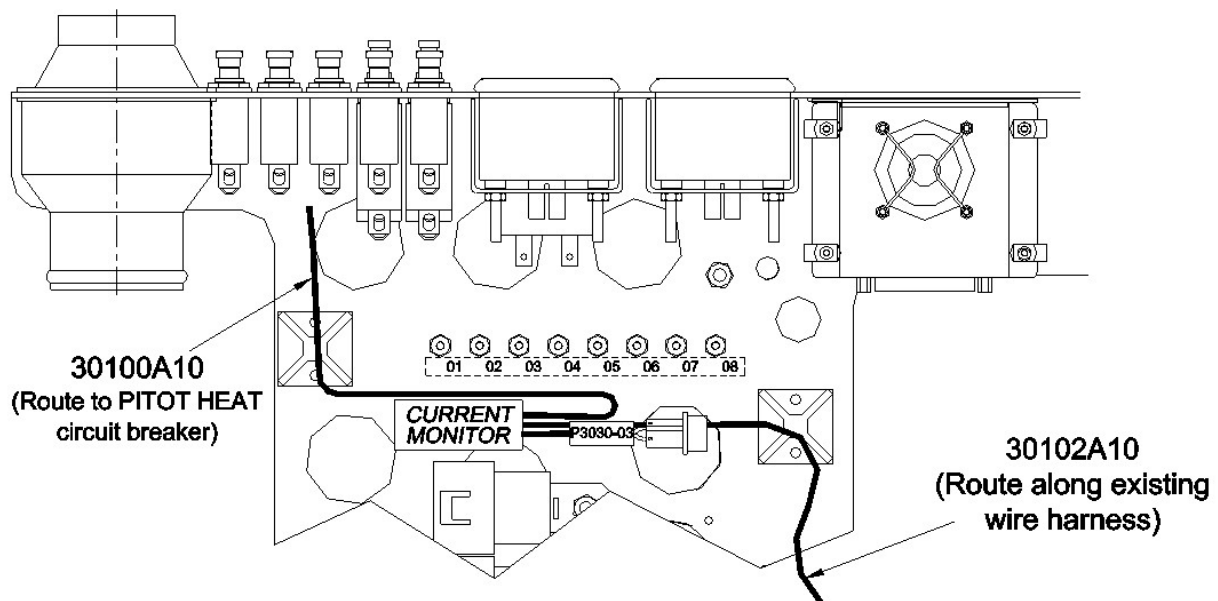
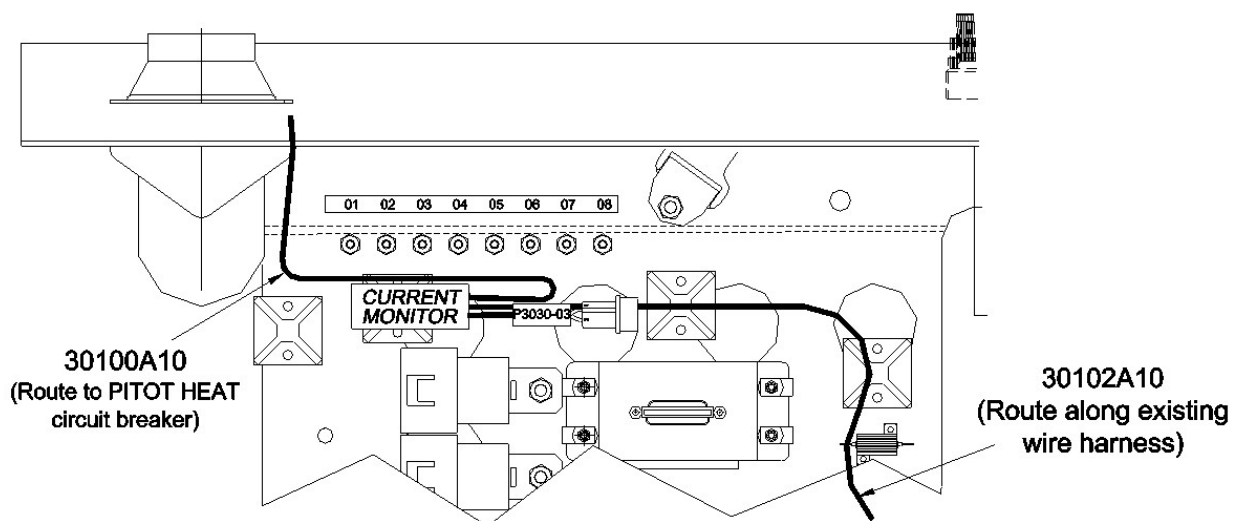

Figure 8: Current Monitor for Non-G500 Instrument Panel
Figure 9: Current Monitor for G500 Instrument Panel
11.2.1.2 Secure the current monitor to the instrument panel using the supplied cable ties (p/n: MS3367-5-9). Route the wires as shown in Figure 8 or Figure 9.
11.2.3.5 Route wire 30106A20 along the existing instrument panel wire harness to 30102A10 (See Figure 8 or 9).